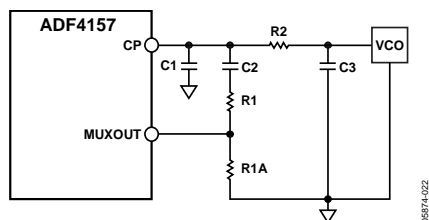

Figure 22. Fast-Lock Loop Filter Topology—Topology 1
- Divide the damping resistor (R1) into two values (R1 and R1A) that have a ratio of 1:3 (see Figure 22).